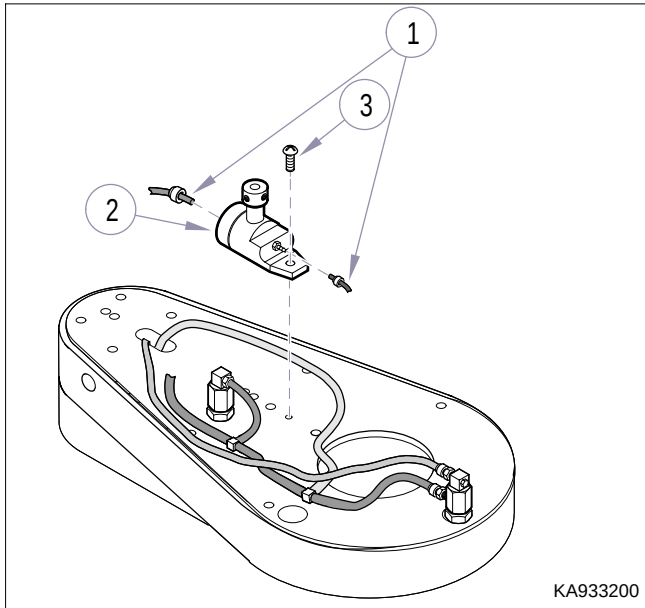

Figure 4-9. Cuspidor Water Valve Removal/Installation
- (1) Remove cuspidor bowl. (Refer to para 4.7).
- (2) Tag and disconnect tubing (1, Figure 4-9) from water valve (2). *[Be sure tubing clamps remain on tubing; they will be used when new valve is installed].*
- (3) Remove screw (3) and water valve (2).